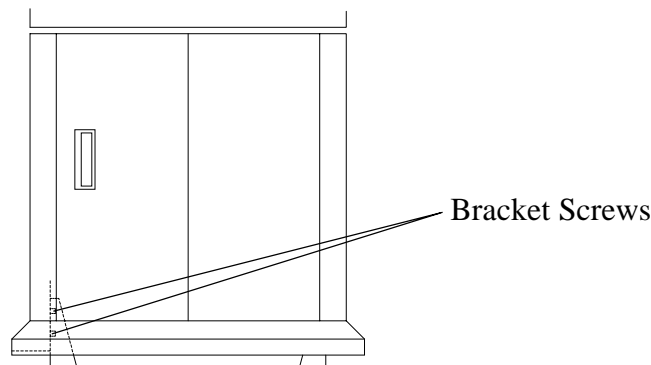

FIG.1
2. Remove 4 pallet brackets from machine stand (retained by 2 screws each, accessed by opening door of stand). See Fig.1 below.